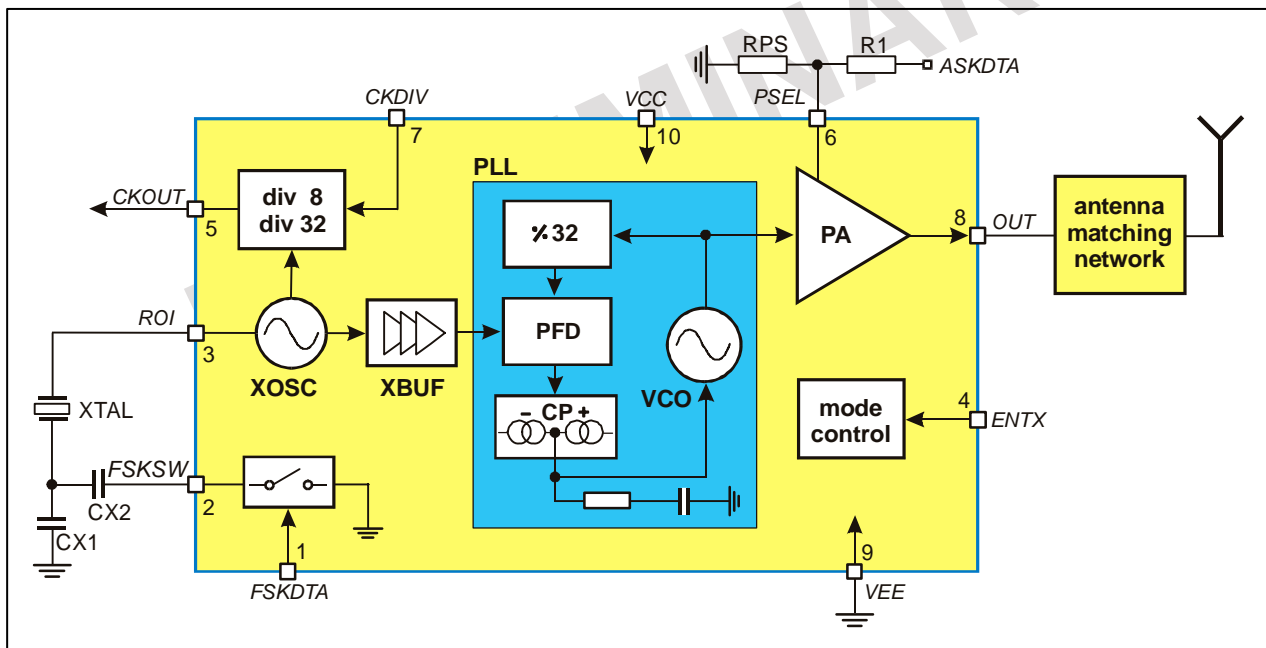

Fig. 1: Block diagram with external components
As depicted in Fig.1, the TH72036 transmitter consists of a fully integrated voltage-controlled oscillator (VCO), a divide-by-32 divider (div32), a phase-frequency detector (PFD) and a charge pump (CP). An internal loop filter determines the dynamic behavior of the PLL and suppresses reference spurious signals. A Colpitts crystal oscillator (XOSC) is used as the reference oscillator of a phase-locked loop (PLL) synthesizer. The VCO's output signal feeds the power amplifier (PA). The RF signal power P_{out} can be adjusted in four steps from $P_{out} = -11$ dBm to +9.5 dBm, either by changing the value of resistor RPS or by varying the voltage V_{PS} at pin PSEL. The open-collector output (OUT) can be used either to directly drive a loop antenna or to be matched to a 50Ohm load. Bandgap biasing ensures stable operation of the IC at a power supply range of 1.95 V to 5.5 V.